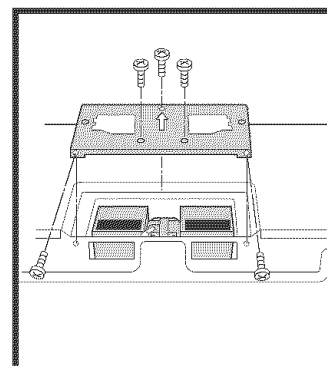

Figure 14
5. Attach the Fan Cover Bracket to unit with the 2 screws from back edge and 3 screws from the top center of the Fan Cover Bracket, which were removed in Step 1 above. See Figure 14. The Hood Fan Unit is now rotated for vertical exhaust operation.